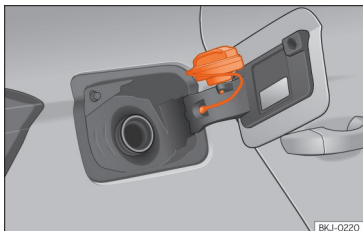

Fig. 146 Fuel tank flap with tank cap attached.
- Place it in the space on the hinge of the open flap >>> Fig. 146.